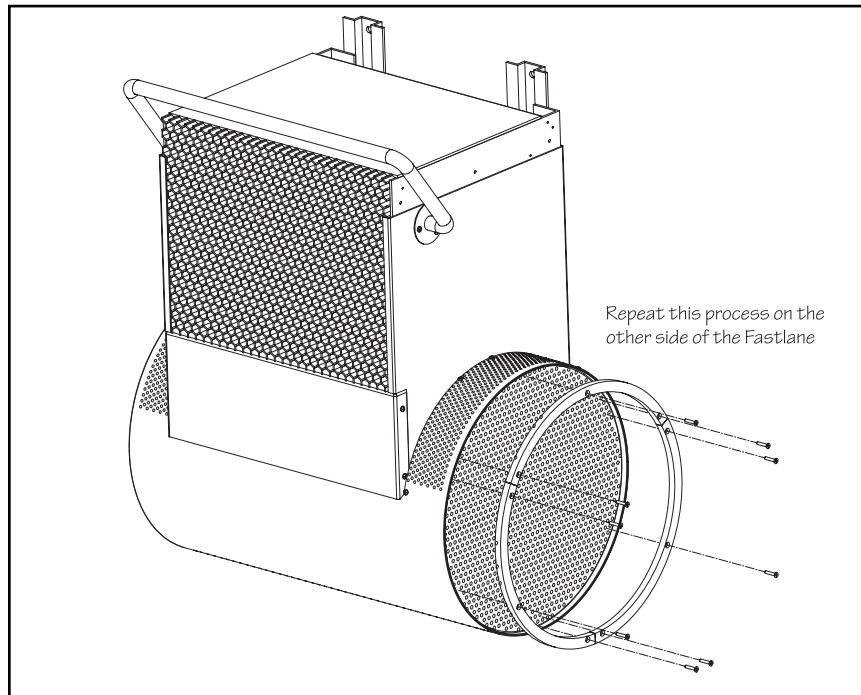

Fig. 6.11
- 6.13 Re-install the circular end caps. Make sure that the “smooth” surface of the end caps are facing out. If the stainless steel wire from the base to the end cap was removed, then it must be reattached at this time. Align the end caps to the internal PVC supports so that the holes in the internal supports are aligned with holes in the end caps. Position the arced cover strips over the end caps, making sure to align the hole in the arced cover strips with the holes in the stainless end caps and the internal PVC supports. Install the nine screws (3 per cover strip) that were removed in step 6.1. Repeat for the remaining end cap (Fig 6.11).